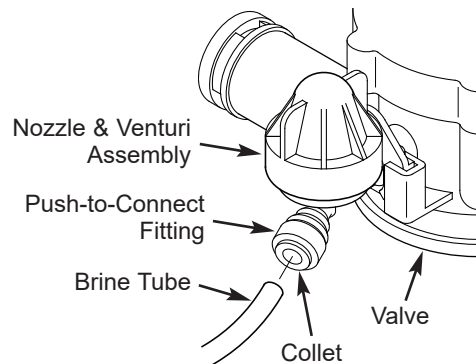
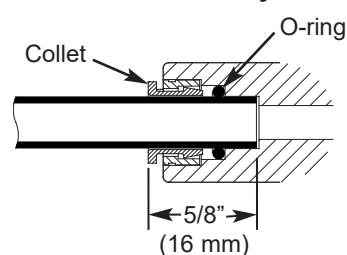

FIG. 14
FIG. 16
- c. Connect brine tube by inserting end into push-to-connect fitting on the valve's nozzle & venturi assembly (See Fig. 14). Push it until at least 5/8" (16 mm) of tube is inserted (See Fig. 16).